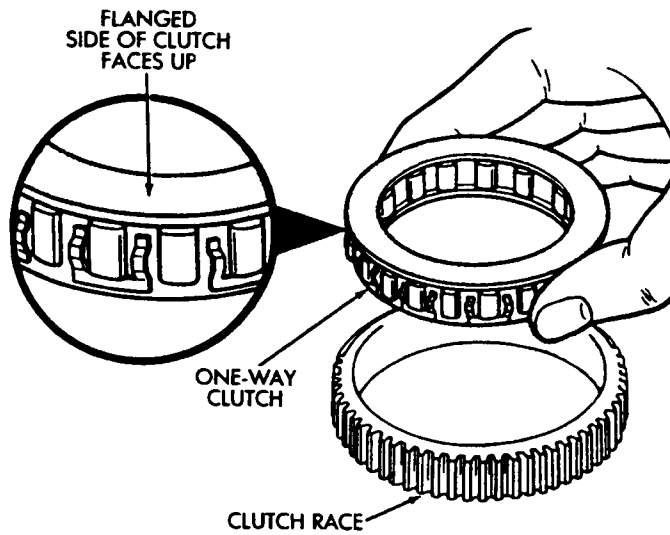

Fig. 21 Assembling One-Way Clutch And Race
(2) Install one-way clutch in race (Fig. 21). Flanged side of clutch must face upward as shown.
(3) Install assembled one-way clutch and outer race in planetary gear. Be sure flanged side of clutch is facing upward.